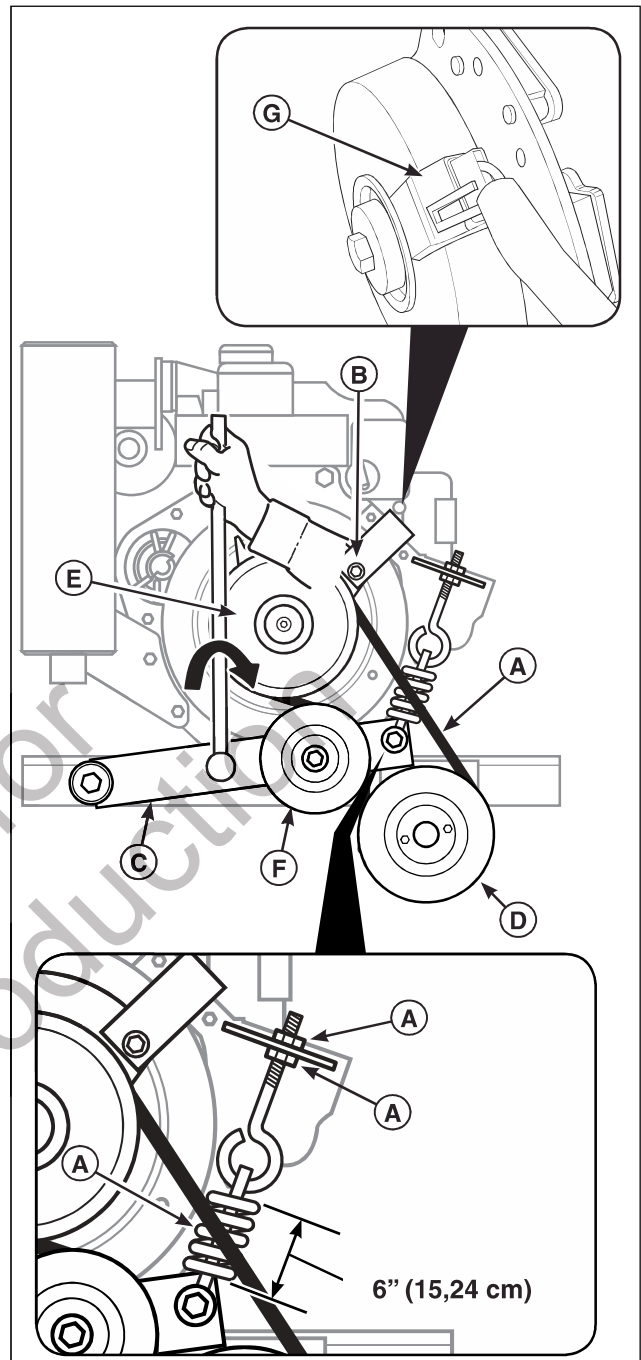

Figure 58. PTO Clutch Belt Replacement
2. Open the hood to gain access to the PTO clutch belts (A, Figure 58) which is located on the rear of the engine.
3. Remove the PTO clutch anchor bolt (B).
4. Disconnect the PTO clutch wire harness (G).
5. Using a 1/2" breaker bar, place the square end in the square hole located in the end of the idler arm (C). Carefully rotate the breaker bar CLOCKWISE, which will relieve tension on the breaker bar.
6. Slide the PTO clutch belts over the edge of the gearbox pulley (D). Carefully release the tension on the breaker bar.
8. Install the new PTO clutch belts on the PTO clutch (E) and the idler pulley (F). Carefully rotate the breaker bar CLOCKWISE and install the pulley on the gearbox pulley (D). Carefully release the tension on the breaker bar.
9. Reinstall the PTO clutch bolt (B).
10. Reconnect the PTO clutch wire harness (G).
1. Measure the idler arm spring (A, Figure 58) as shown in Figure 58. The spring should measure 6" (15,24 cm).
2. If the measurement does not equal 6" (15,24 cm) loosen the jam nut (B) and turn the spring adjustment nut (C).